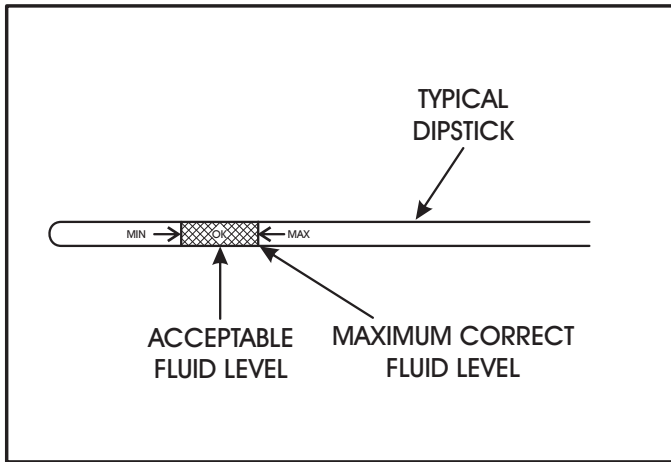

Figure 26
(1) Transmission fluid level must be checked before performing the pressure tests and must be at normal operating temperature for accurate check. Drive vehicle if necessary to bring fluid temperature up to normal operating temperature of 82°C (180°F).
- (2) Position vehicle on flat level surface.
- (3) Start and run engine at curb idle speed.
- (4) Apply Parking Brakes.
- (5) Shift transmission through all gear ranges and then back to the Neutral position.
- (6) Remove dipstick and check fluid level.
- (A) Correct level is in crosshatch area.
- (B) Correct maximum level is to MAX arrow.
- (C) Incorrect level is at or below MIN line.
(7) If fluid level is low, add only enough of the Mopar® ATF Plus 3 or 4, Type 7176 to restore correct fluid level. Do not overfill (See Figure 26).